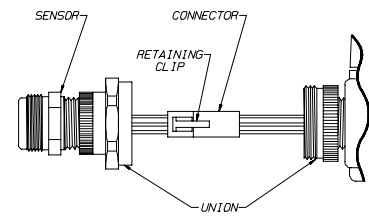

Figure 6. Plug-in Sensor
- a. Pull sensor away from unit's housing until white connector is exposed (FIGURE 6).
4. On the new sensor, squeeze the tab on the white connector and separate the connector (FIGURE 6). Discard the portion containing only the wires.
10. Disconnect white connector on sensor by pressing the small tab (FIGURE 6).